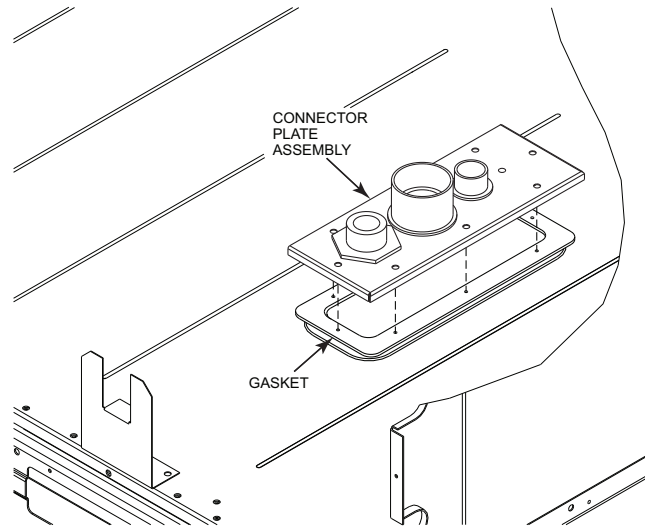

Fig. 19 — Completing Installation of Thru-the-Base Option
4. Place the gasket over the embossed area in the basepan, aligning the holes in the gasket to the holes in the basepan. See Fig. 19.